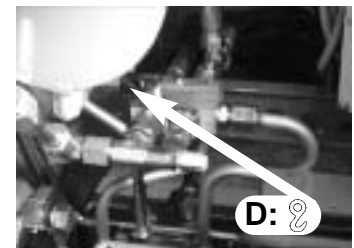

fig. 20a
- Lever **D** Deviator crane - outriggers (⌘ - E/S). Fig. 20a-20b
- Unfold the crane into a working condition, positioning lever **D** of oil diverter crane-outriggers (☺ - **E/S**) on ☺. Fig. 20a